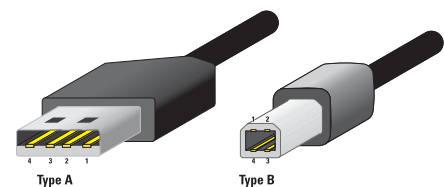

Figure 2. USB Type A and Type B plugs.
- USB Type A to Type B serial data cable (see Figure 2)